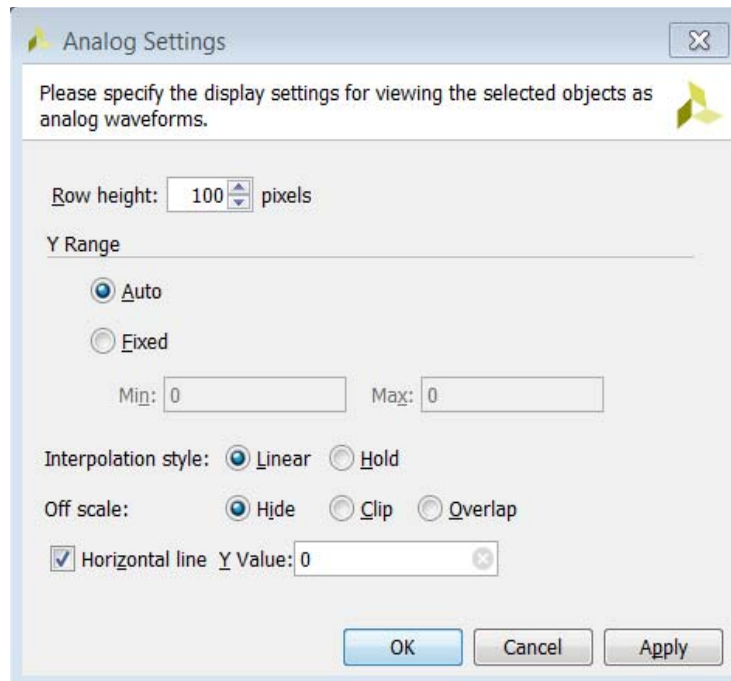

Figure 5-3: Analog Settings Dialog Box
- Analog Settings: Opens the Analog Settings dialog box (shown in Figure 5-3), which provides options for the analog waveform display.